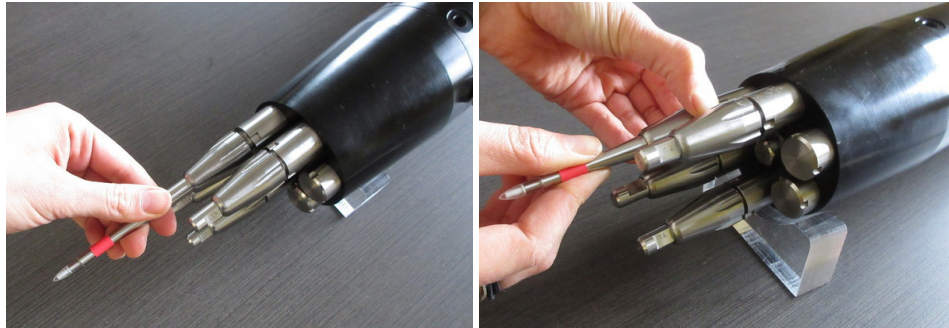

Figure 11: Inserting a probe into a probe holder.
1. Connect and tighten the microstructure probes to their appropriate SMC cables. Insert the sensors into the probe holders (Figure 11). **Make sure the probes are fully seated.**